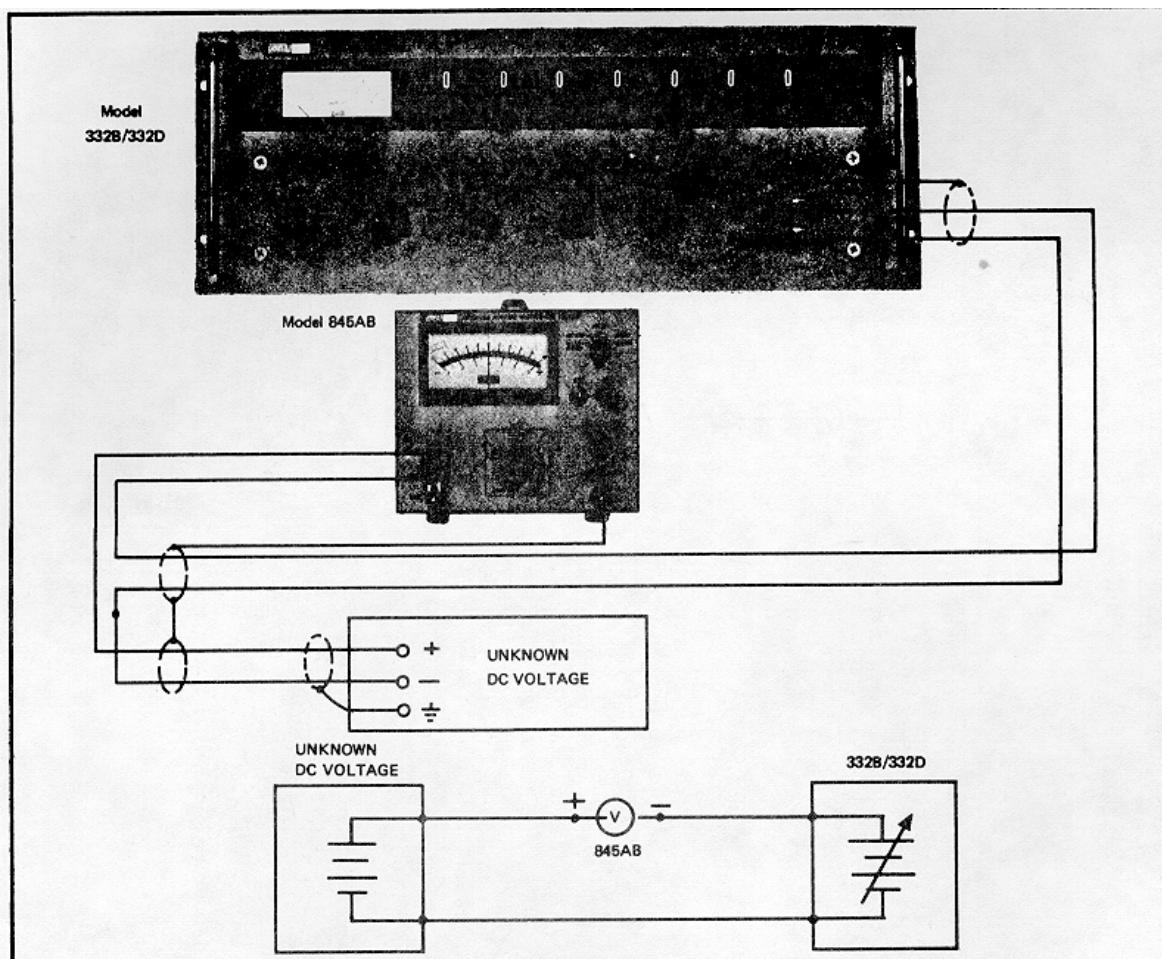

Figure 2-5. OPERATION AS 20 PPM DIFFERENTIAL VOLTMETER
- Connect the equipment as shown in Figure 2-5.
comparing voltages to 1.0 ppm resolution. An application is the comparison of saturated and unsaturated standard cells. Connect the equipment as shown in Figure 2-5. Determine the value of the unknown standard cell as follows: